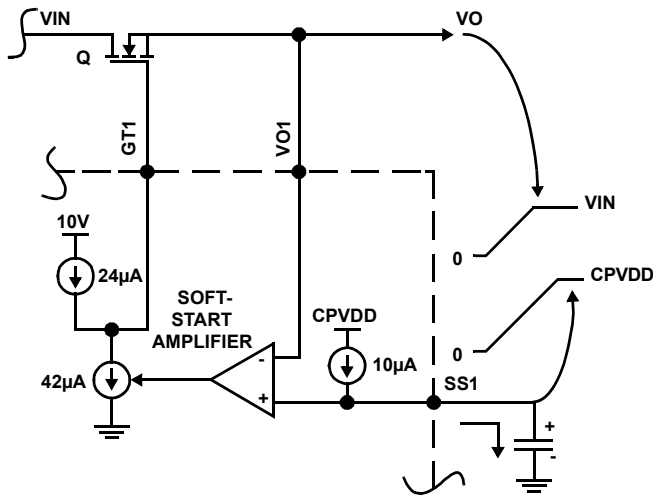

FIGURE 12. SOFT-START OPERATION
The output voltages are monitored through the Vo pins and slew up at a rate determined by the capacitors on the Soft-start (SS) pin, as illustrated in Figure 12. 24μA of gate charge current is available. The soft-start amplifier controls the output voltage by robbing some of the gate charge current thus slowing down the MOSFET enhancement. When the load voltage reaches its set level, as sensed by its respective UV pin through an external resistor divider, the Power Good (PG) output goes active.
I_{INRUSH} is the sum of the dc steady-state load current and the load capacitance charging current. If the dc steady-state load remains disabled until after the soft-start period expires (PGX could be used as a load enable signal, for example), then only the capacitor charging current should be used as I_{INRUSH} . The C_{SS} value should always be more than (1/2.4) of that of C_{ISS} of the MOSFET to ensure proper soft-start operation. This is because the C_{ISS} is charged from 24μA current source whereas the C_{SS} gets charged from a 10μA current source (please refer to Figure 12). In order to make sure both V_{SS} and V_O track during the soft-start, this condition is necessary.